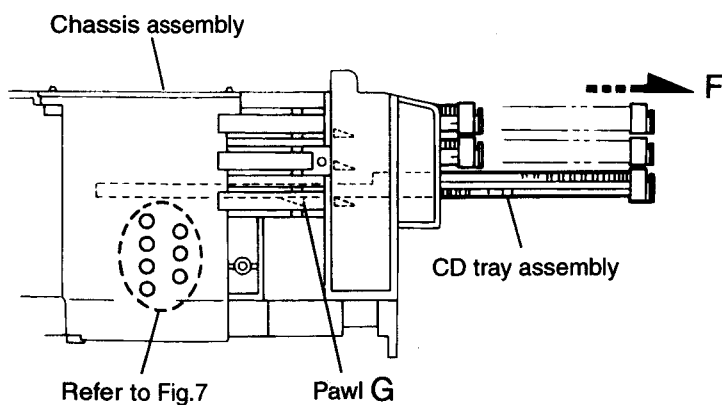

Fig.6
12. Make sure that the driver unit elevator is positioned as shown in Fig.6 from the second or fifth hole on the left side face of the CD Traverse mechanism assembly.
14. Pull out all of the three stages of CD tray assembly in the arrow direction "F" until these stages stop (See Fig.6).